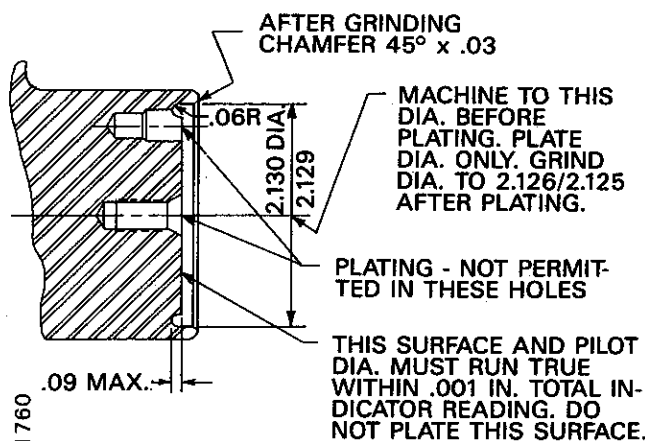

Figure 7-12A. Details for Repairing Pilot Diameter of Crankshaft
a. After removing the dowel, machine the pilot diameter in the end of the crankshaft to 2.129/2.130 inch as shown in the illustration. See Figure 7-12A. Also, cut the .09 deep x .06R undercut as shown.
e. Chamfer edge of pilot diameter 45° x .03 as shown in Figure 7-12A.